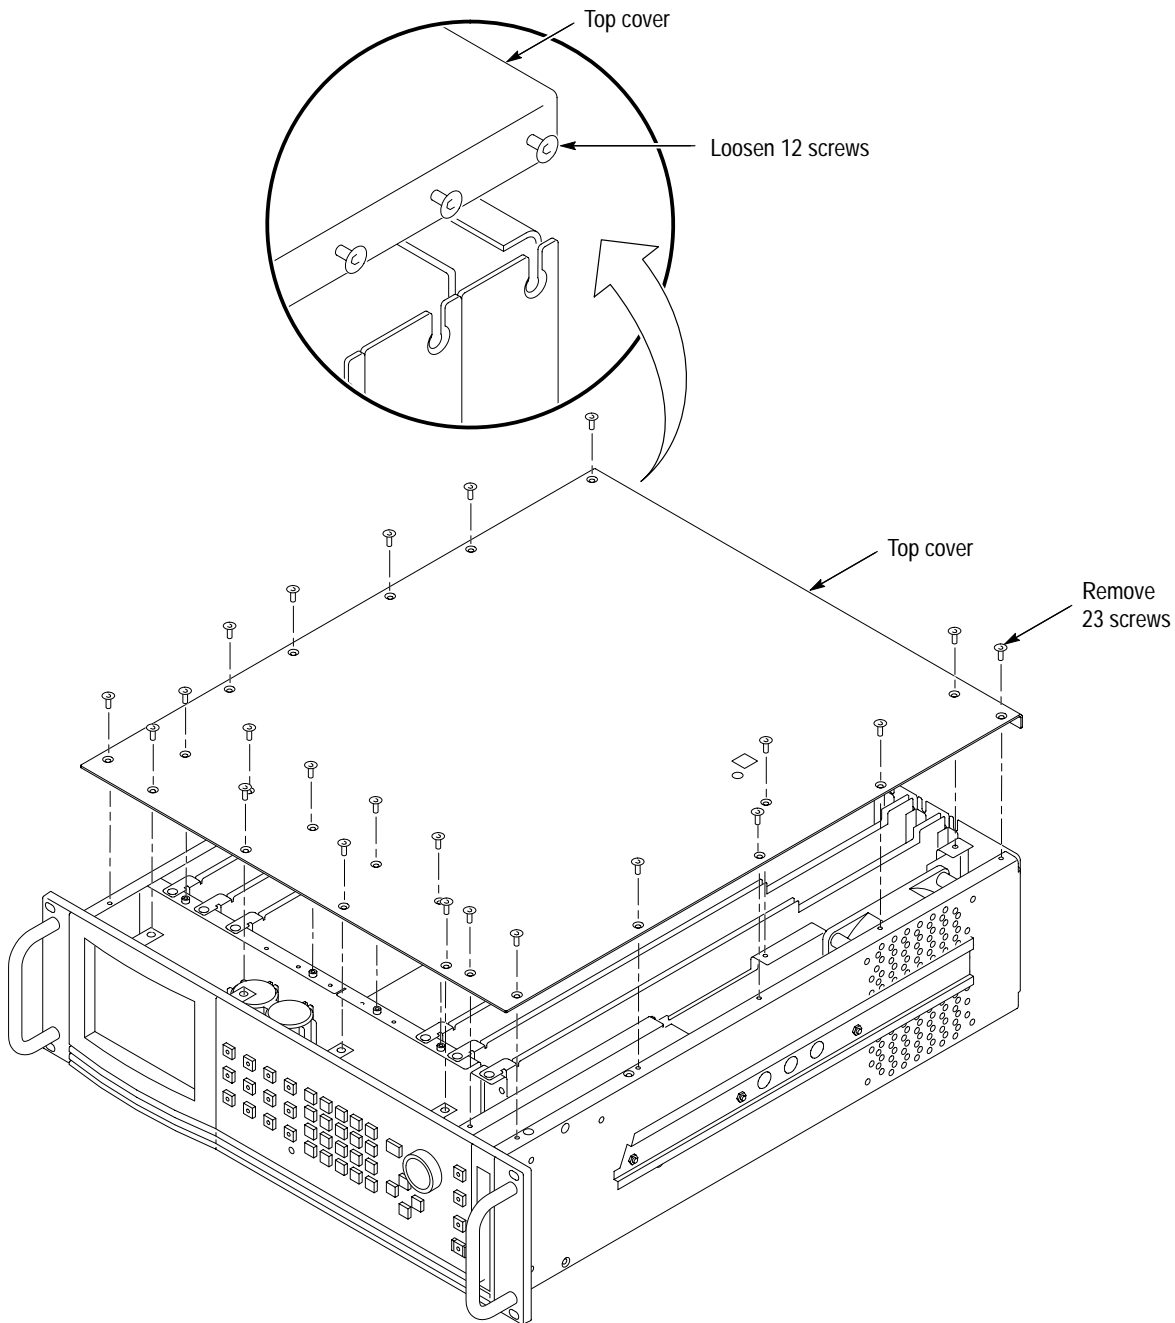

Figure C-1: Top cover removal
3. Refer to Figure C-1 and remove or loosen all screws to remove the top cover.